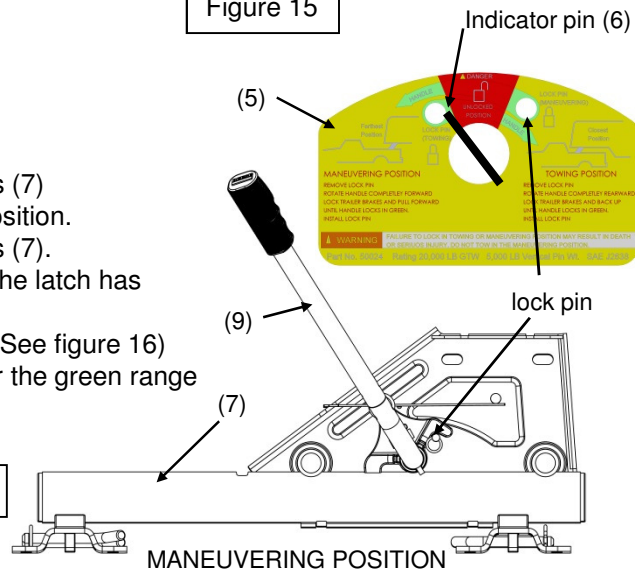

Figure 16
5. Return to truck. Release emergency brake. Manually engage trailer brake and pull truck forward until REESE™ FIFTH Wheel Slider stops and the latches engage in maneuvering position (see Figure 16).
- C. If Slider does not move, latch has engaged tubes (7) and Slider should be engaged in maneuvering position.
- D. If Slider does move, latch has not engaged tubes (7). **DO NOT TOW!!** Repeat steps 1 - 6 above until the latch has engaged the tubes (7).
- E. Install lock pin completely in maneuvering hole. (See figure 16)
7. Examine warning label (5). Indicator pin (6) should now be over the green range on the left side of the warning label (5) (see Figure 16).